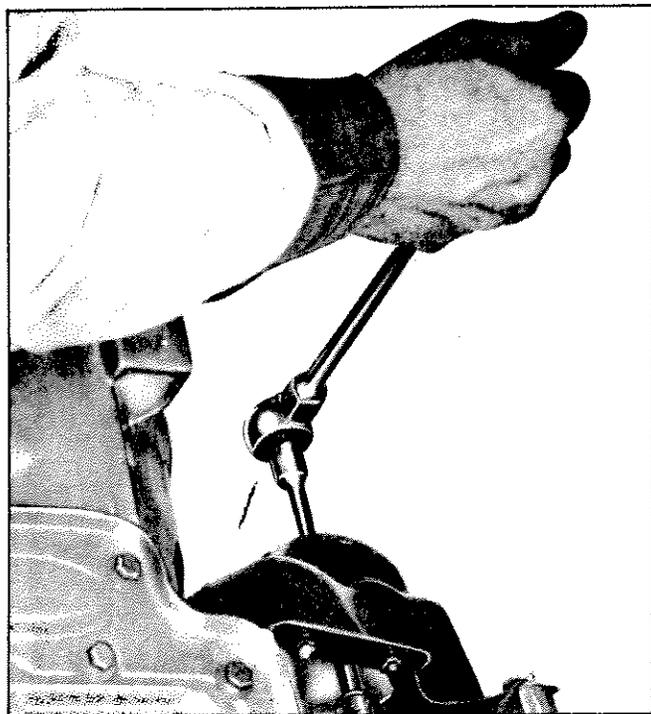

Fig. 51—Removing Left Front Shroud
- Remove front shroud and elbow assemblies (one left shroud attaching bolt may be reached inside heater elbow) (fig. 51).